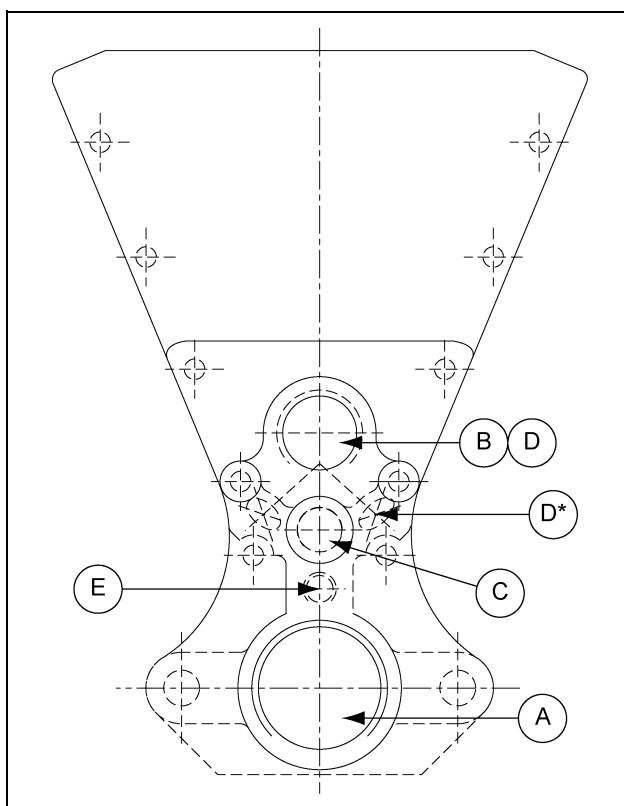

Figure 7B Burner End Plate, Spark, Pilot and Flame Rod Locations
- c. Flame rod may be re-positioned or gently bent to get better contact with the flame. Ensure rod is well clear of burner to prevent grounding when hot. Be careful not to damage ceramic insulator surrounding flame rod. (See Figure 7B.)